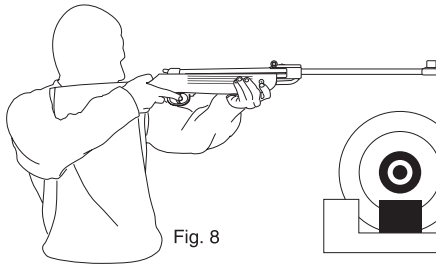

Fig. 8
- Sight in*, disengage safety and get ready for shooting (Fig. 8)